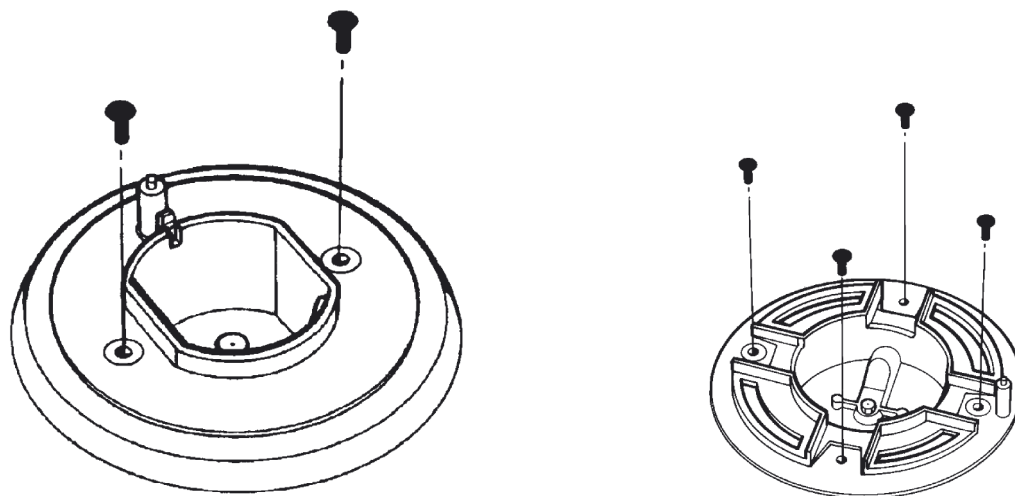

Fig 4
- b) Remove all of the screws retaining hotplate burner trims (4 from Wok burner, 2 each from the other three burners). (See Fig. 4).
3. Remove all of the screws retaining hotplate burner trims (4 from the Wok burner, 2 each from the other three burners). (See Fig. 4).